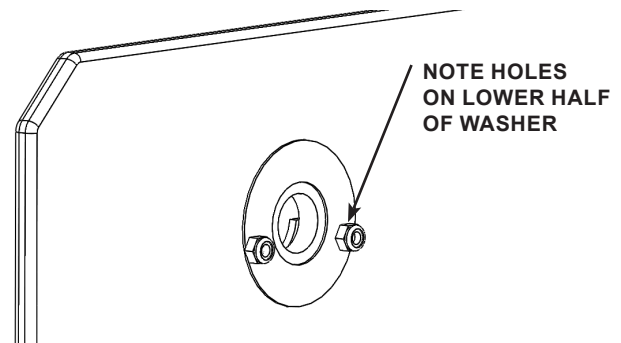

**FIGURE 3.21 - Holder Installation**
**STEP 5:** Rotate the humidifier holder orientating the bracket to align with the top hole in the door (lower two screw holes). Install the humidifier holder by reattaching the large washer on the backside of the door, secure with the screws and nuts. See FIGURE 3.21